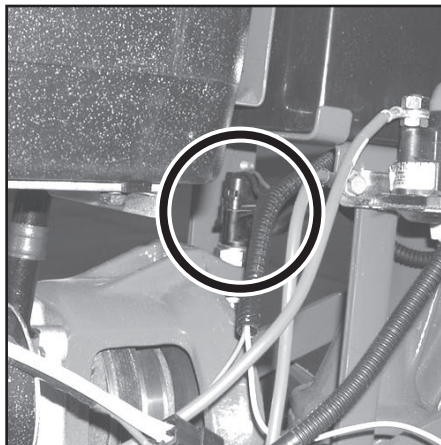

Figure 4-6: Interlock Safety System Plug and receptacle (located below battery) must be securely connected.
2. Check that the Forward Interlock wire harness plug, Figure 4-6, is securely connected.